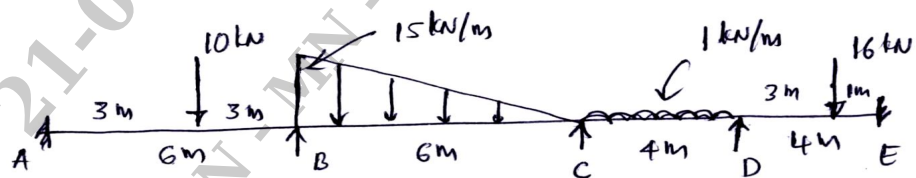

Fig.Q.3
- 3 Analyze the beam shown in Fig.Q.3 by moment distribution method. Draw BMD EI is constant. (20 Marks)